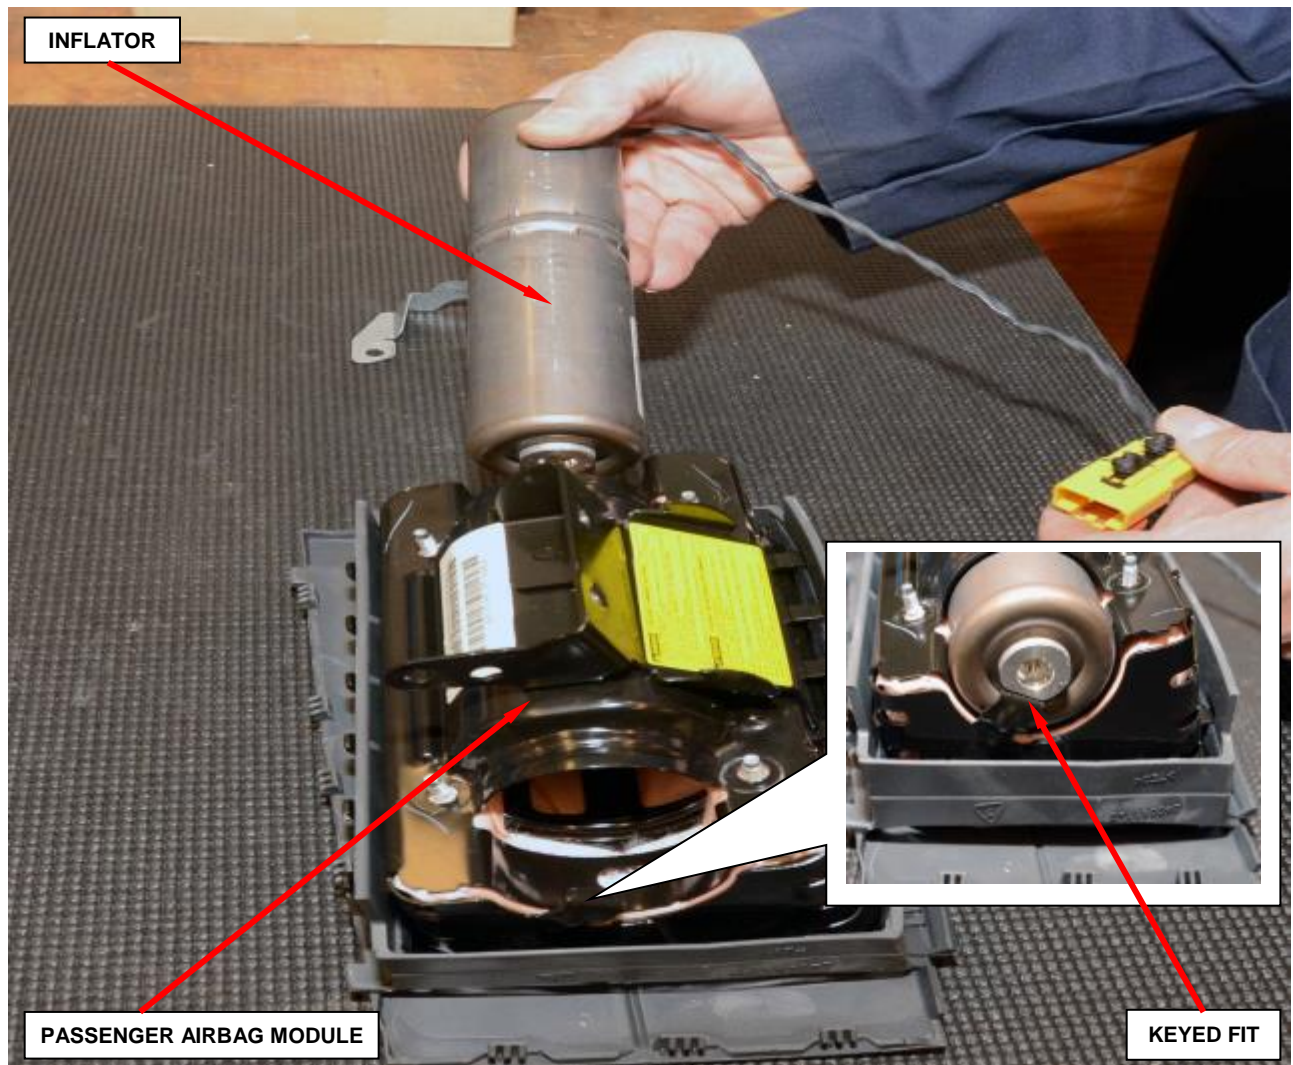

Figure 98 – Passenger Inflator Installation
NOTE: The inflator's key **MUST** line up with the housing's key (Figure 98).
- o.** Slide the **new** inflator into the passenger airbag module (Figure 98).
NOTE: The inflator is keyed to fit into the housing (Figure 98).